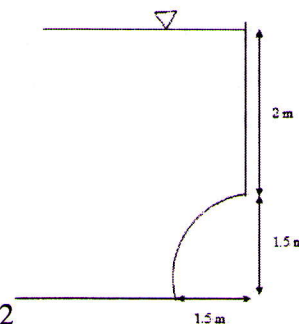

Figure 2
- b) Obtain an expression for centre of pressure of a lamina paced in inclined position. (7)
- 2 a) Derive continuity equation in three dimensional Cartesian coordinates. (7)
- b) A rectangular barge 16 m x 5 m has a depth of immersion of 1.6 m when floating horizontally. The centre of gravity of the barge is 1.9 m above the bottom. Determine the angle of tilt if a 50 kN weight is moved across the deck by 3.5 m. (8)
- 3 a) In a 2-dimensional steady incompressible flow, the velocity components  $u$ ,  $v$  are given by  $u = 2x - x^2y + \frac{y^3}{3}$ ,  $v = xy^2 - 2y - \frac{x^3}{3}$ . Determine the acceleration at P(1,3). (6)
- b) A door in a tank retaining water is in the form of a quadrant of a cylinder of 1.5 m radius and 1.8 m wide as shown in Figure 2. Calculate the resultant force on the gate. (9)